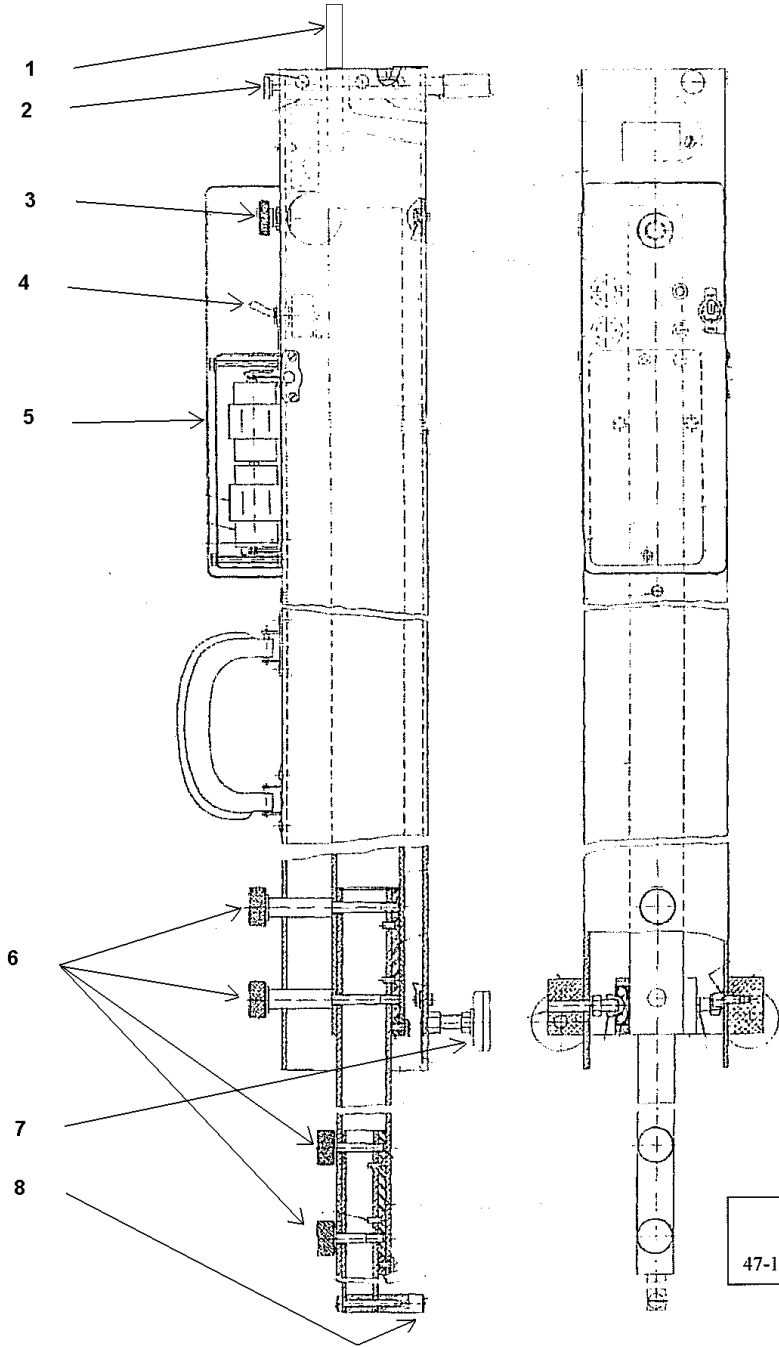

FIGURE 1
- 3.1.2 Remove the four probe beam locking studs from their storage position in the box, Figure 1, (5). Telescope the probe beams completely (pull out to full length) and lock into position with studs. Hand tighten.
- 3.1.3 Open the box cover, Figure 1, (5). Open the battery cover and install four "D"-size batteries, as shown on directions inside the battery compartment.
- 4.1 Undo clamp screw, Figure 1, (2).
- 4.2 Turn the thumb wheel, Figure 1, (1), until the bottom of the levelling screw is about 4cm below the bottom of the frame.
- 4.3 Carefully install the dial indicator into the indicator collet, Figure 1, (3), loosening the collet nut if necessary. By looking through the window on the side of the frame, move the beam through its extreme up and down range. Watch the dial indicator as you move it. Set the dial indicator to coincide with the up and down movement of the beam as much as possible.
- 4.4 Note the relative position of the front "sensing" tip, Figure 1, (8), and the dial indicator pointer. If the front probe is not on the floor, loosen the lock nuts and screw the front levelling feet, Figure 1, (7), into their supports until the dial indicator is about in its mid range. Making sure the two levelling feet are an equal distance from the bottom of the frame, use the lock nuts to lock them in place. The dial indicator is now in its correct location, protected from bottoming damage.
- 5.2 Turn on the vibrator system, Figure 1, (4), and adjust the position of the rear support, Figure 1, (1), so the dial indicator is set at zero. Lock the rear support in place with its locking screw, Figure 1, (2). If additional adjustment is necessary, it can be done by repositioning the height of the front legs, Figure 1, (7).